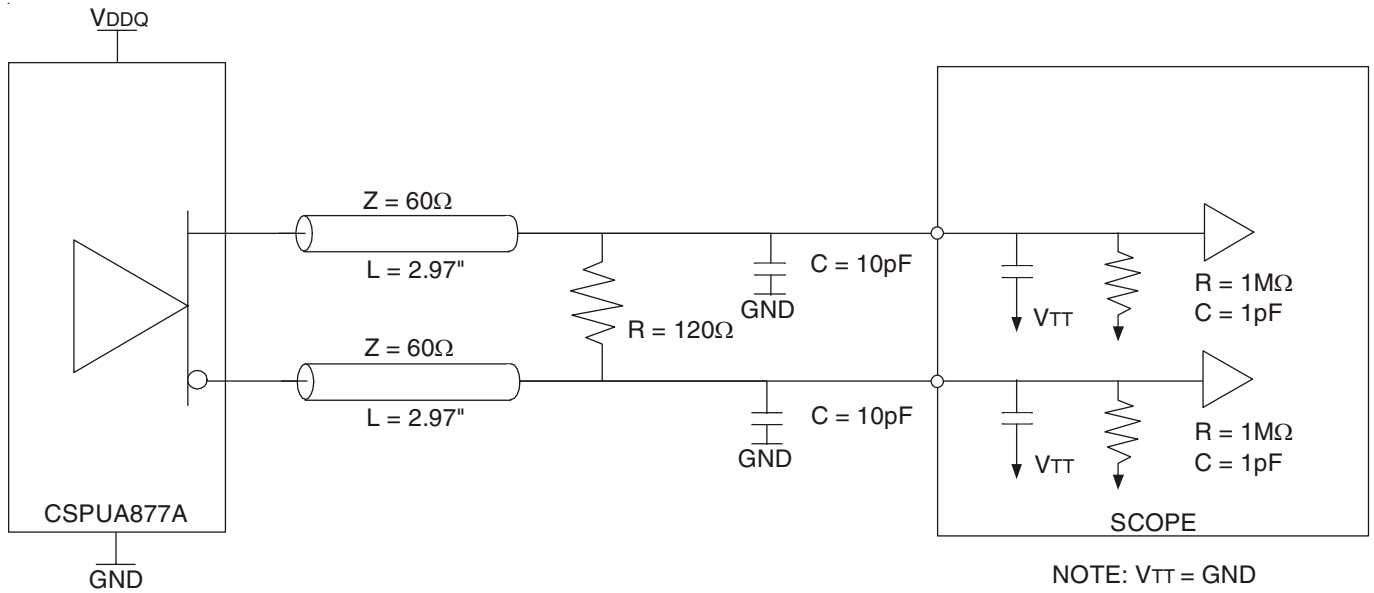

Figure 1: Output Load Test Circuit 1
- There are two different terminations that are used with the above AC tests. The output load shown in figure 1 is used to measure the input and output differential pair cross-voltage only. The output load shown in figure 2 is used to measure all other tests, including input and output slew rates. For consistency, use 50 Ω equal length cables with SMA connectors on the test board.
- In the frequency range of 271 - 410MHz, the min and max values for t_{JIT(PER)} and t_{(ϕ)DYN}, and the max value for tsk(O), must not exceed the corresponding min and max values of the 160 - 270MHz range. Also, the sum of the specified values for | t_{JIT(PER)} |, | t_{(ϕ)DYN} |, and tsk(O) must meet the requirement for Σ t_(SU), and the sum of the specified values for | t_{(ϕ)DYN} | and tsk(O) must meet the requirement for Σ t_(H).